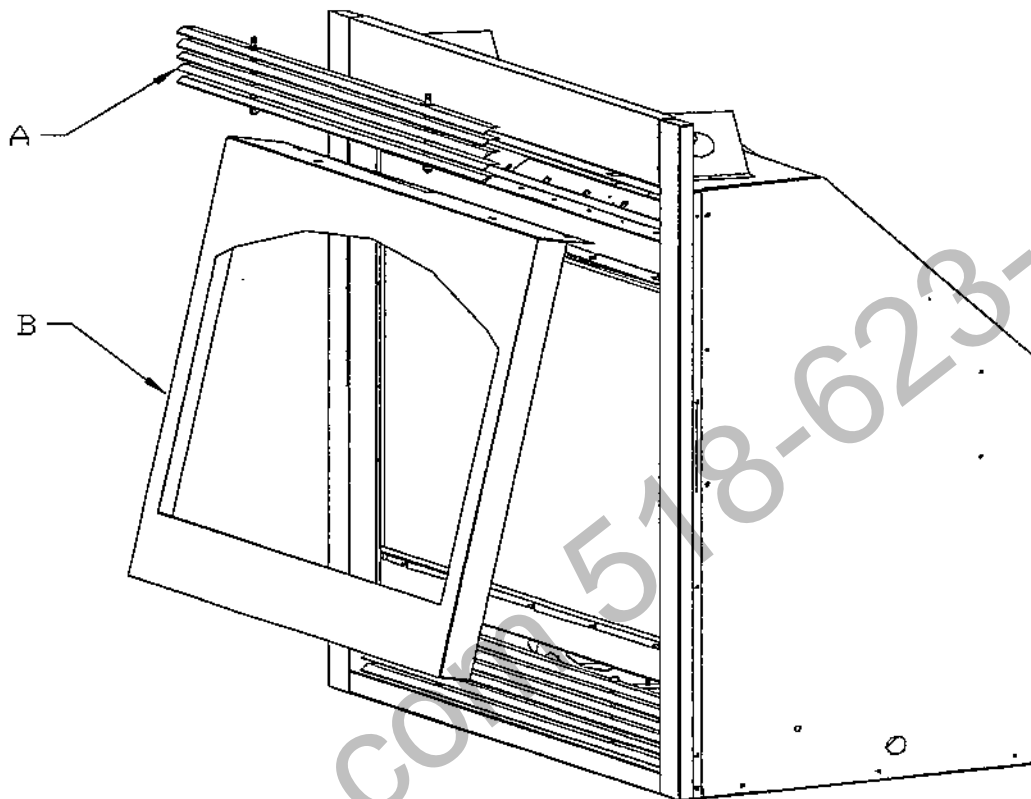

FIGURE 5
1. REMOVE THE UPPER GRILL & ARCHED VALANCE See figure 5.